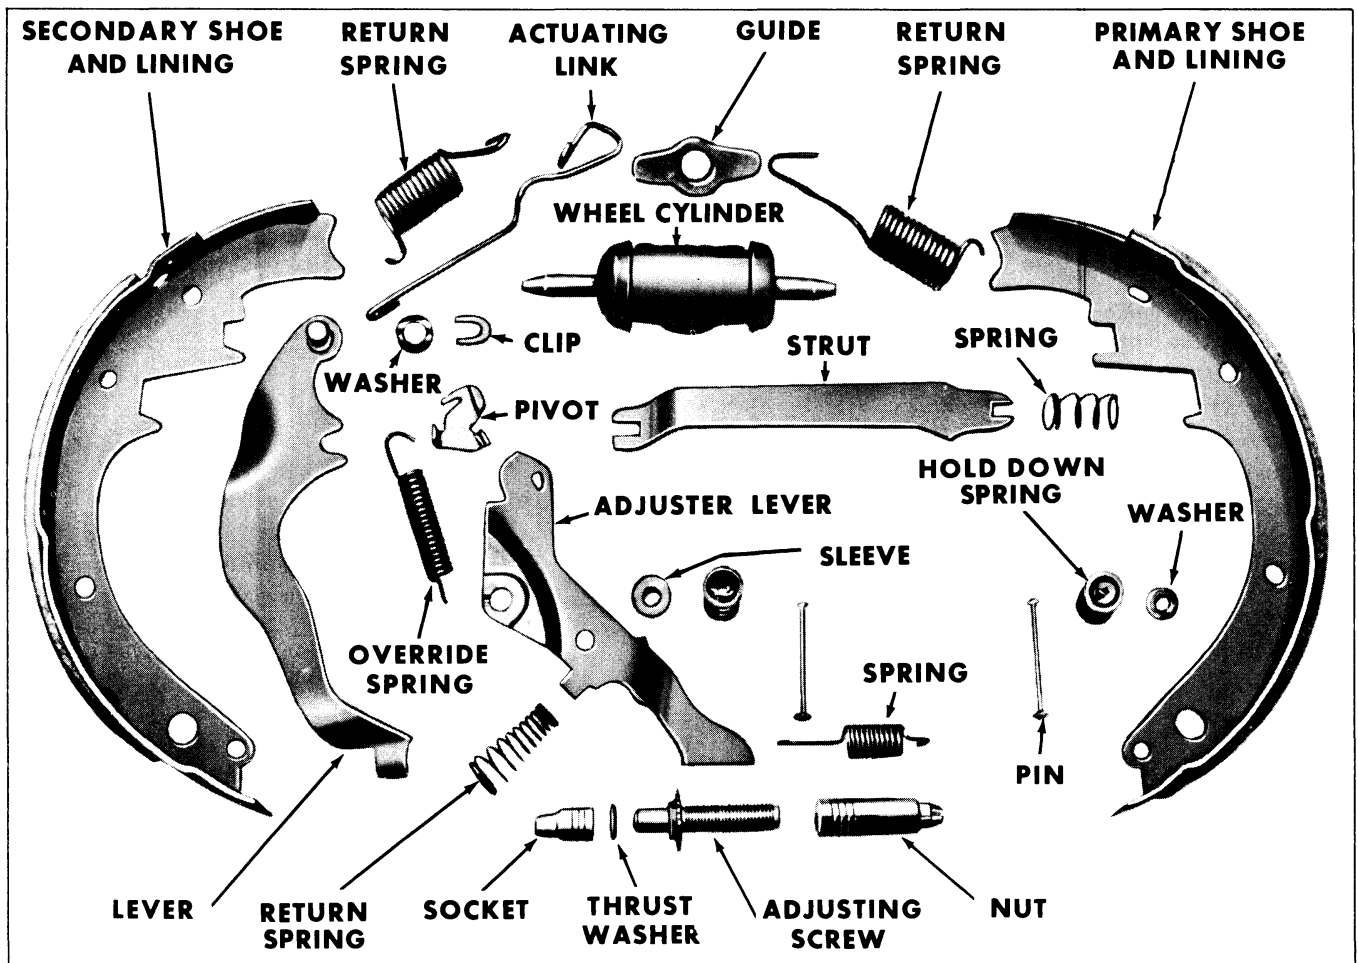

Fig. 5-13 Self-Adjusting Brake Assembly—Exploded View
4. Remove the actuating lever (Fig. 5-13).
6. Remove the brake shoe hold down springs, pins and washers, and the adjuster lever and return spring (Fig. 5-13).
pivot then position the adjuster lever and return spring on the secondary shoe. Fasten with the red hold down spring assembly (Fig. 5-13).